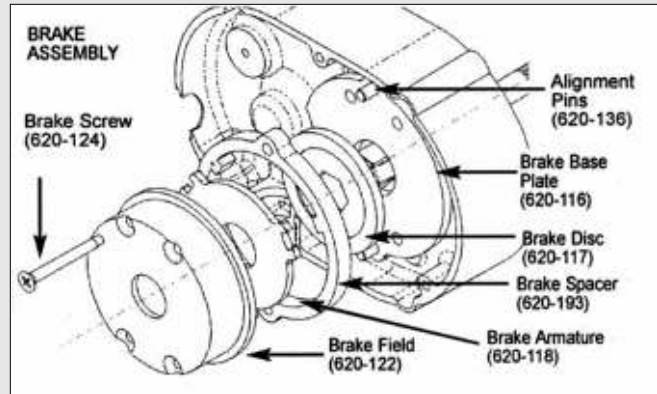

Figure 8B
1. Refer to Figure 8B and disassemble the brake. Depress and hold the field assembly (620-122) while removing the four brake screws (620-124). The field assembly is under spring pressure and will spring-out if not held. During disassembly, note there is a small leaf spring (620-121) on the brake driver (620-119) and this will spring-out when